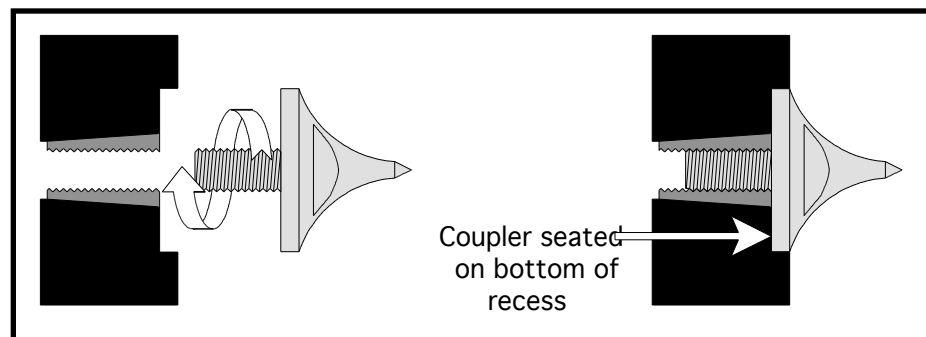

Figure 3.2 – Installation of Apex[®] couplers.
3. Install three Apex[®] couplers on the bottom of the cabinet by fastening the threaded ends of the couplers into the cabinet inserts (see Figure 3.2). Lightly tighten the couplers and insure that the base of the coupler contacts the bottom of the recess.
2. Install three Apex[®] couplers on the bottom of the cabinet by fastening the threaded ends of the couplers into the cabinet inserts (see Figure 3.2). Lightly tighten the couplers and insure that the base of the coupler contacts the bottom of the recess.
2. Install four Apex[®] couplers on the bottom of the cabinet by fastening the threaded ends of the couplers into the cabinet inserts (see Figure 3.2). Lightly tighten the couplers and insure that the base of the coupler contacts the bottom of the recess.